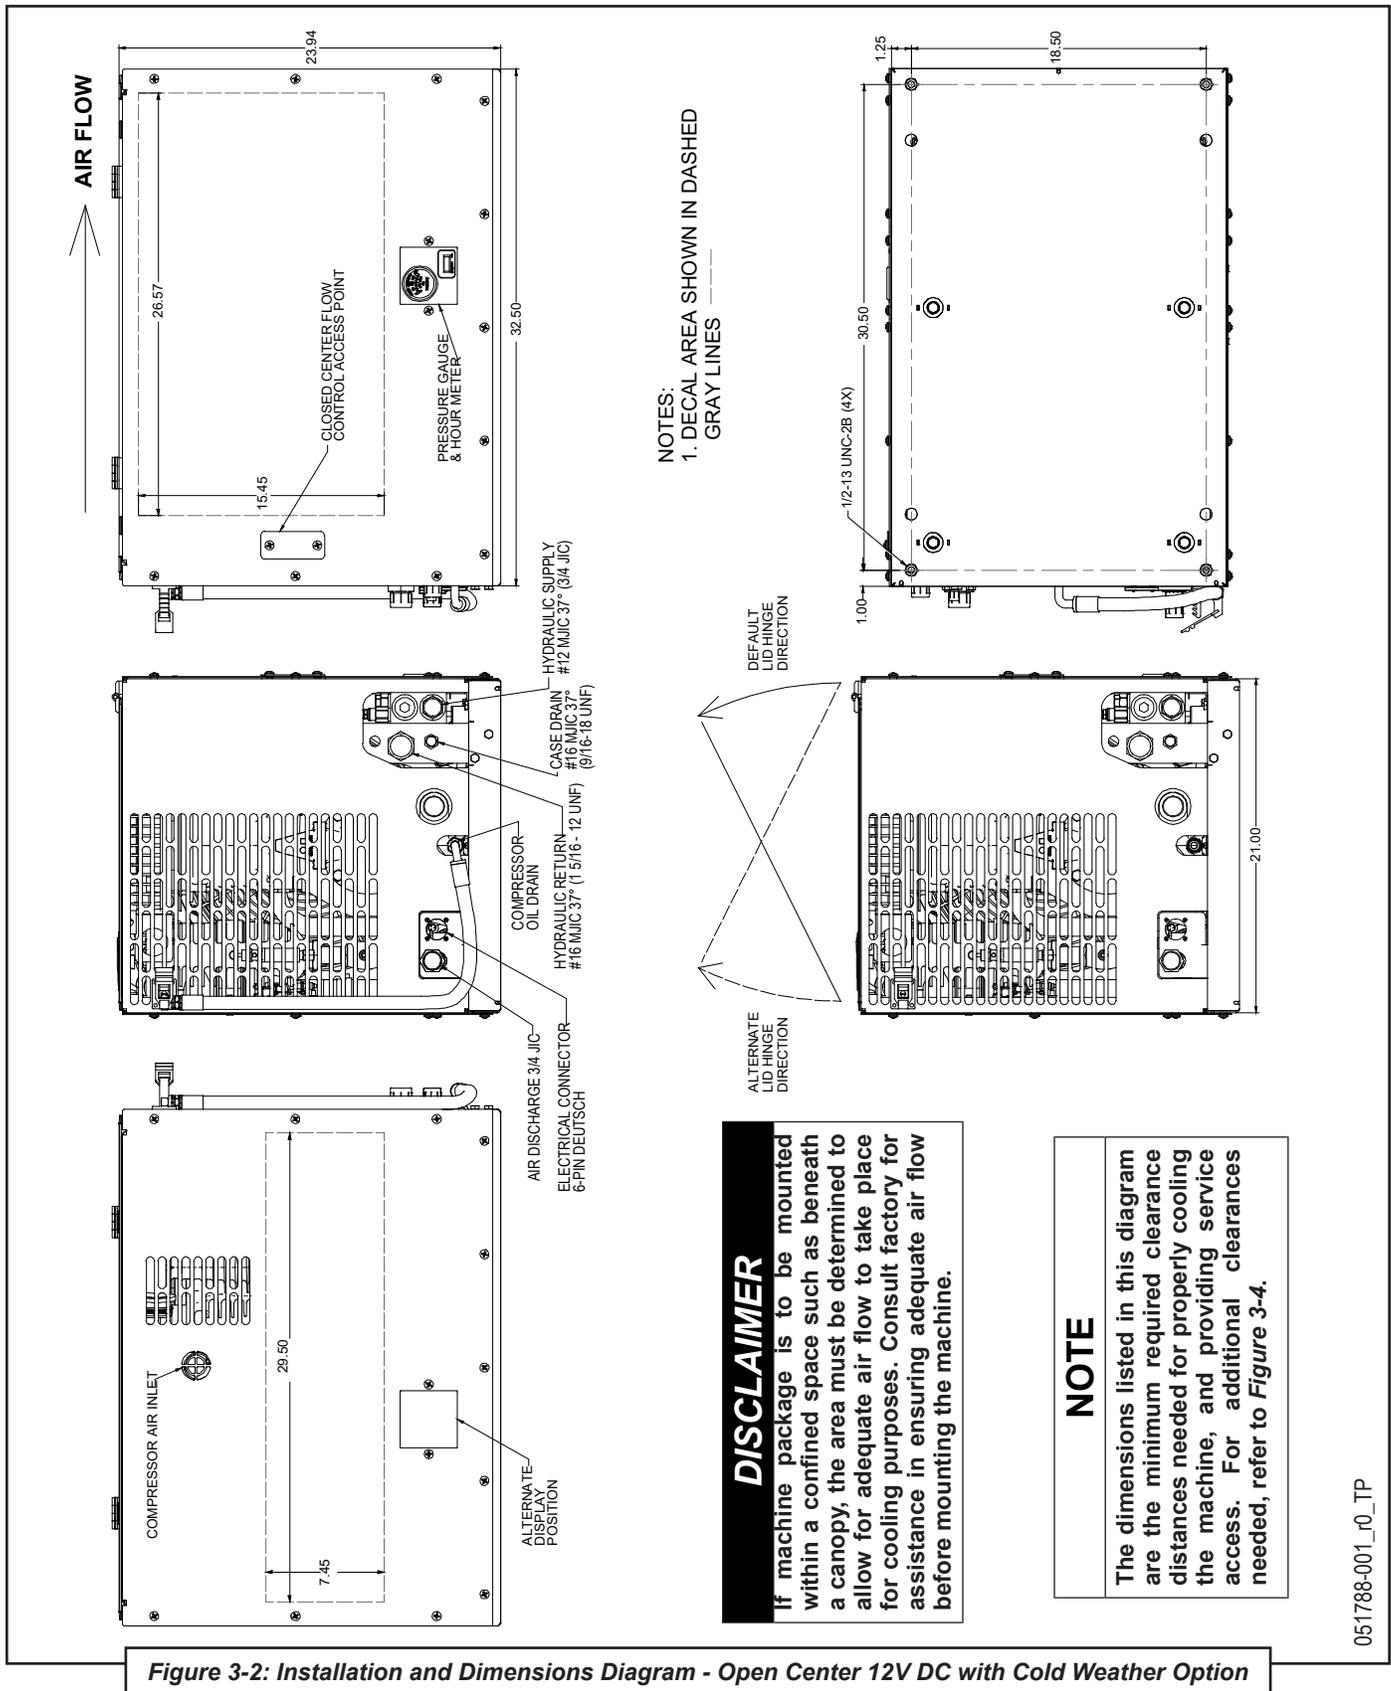

Figure 3-2: Installation and Dimensions Diagram - Open Center 12V DC with Cold Weather Option
- The mounting surface must be level and able to accommodate the four (4) mounting bolts and isolators of the base frame. Refer to **Figure 3-1** or **Figure 3-2** for layout of mounting hole slots' locations.
Refer to **Figure 3-1** or **Figure 3-2** for hydraulic pump system connections.
Refer to **Figure 3-1** or **Figure 3-2**.
Refer to **Figure 3-1** or **Figure 3-2**. Service connections are conveniently grouped at the lower rear section of the unit in the base frame.
Refer to **Figure 3-1** or **Figure 3-2**. Connect the electrical supply connector, located at the connection port panel end of the unit. This system is offered with 12V DC circuits.
Refer to **Figure 3-1** or **Figure 3-2**, and the electrical and wiring diagrams (**Sections 7.18** and **7.19**). Ensure that all supply hoses and electrical wiring are correctly specified, adequately supported, and do not touch or rest on any sharp edges. Wiring should be protected with split loom to prevent corrosion, and consequential loss due to down time.
Refer to **Figure 3-1** or **Figure 3-2** for hydraulic supply and return hose location connections and layout routing. Use correctly rated hoses (3000 PSI minimum) to securely connect both supply (3/4" J.I.C. 37° male) and return connectors (1" J.I.C. 37° male).
Refer to **Figure 3-1** or **Figure 3-2** for service air discharge port location. Connect the service valve. Connect the air discharge line to the 3/4" JIC male connector.